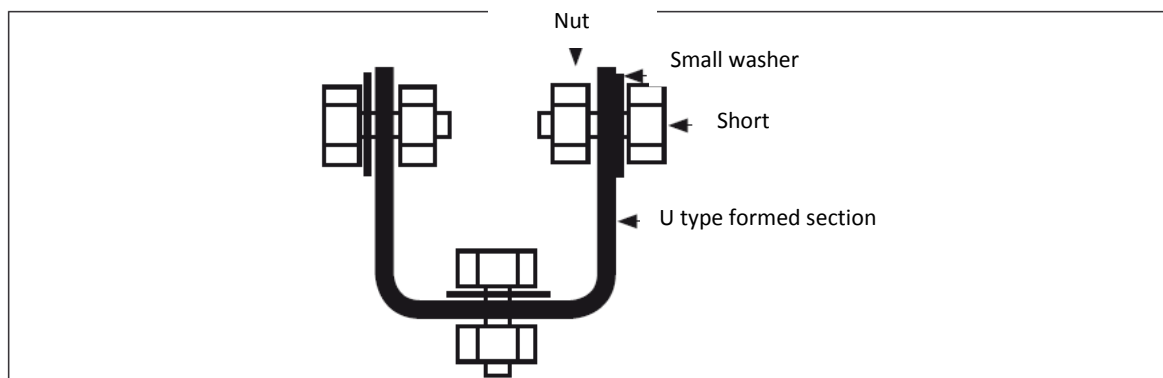

Figure 19
- > Prepare six narrow U formed sections as shown in figure 19.